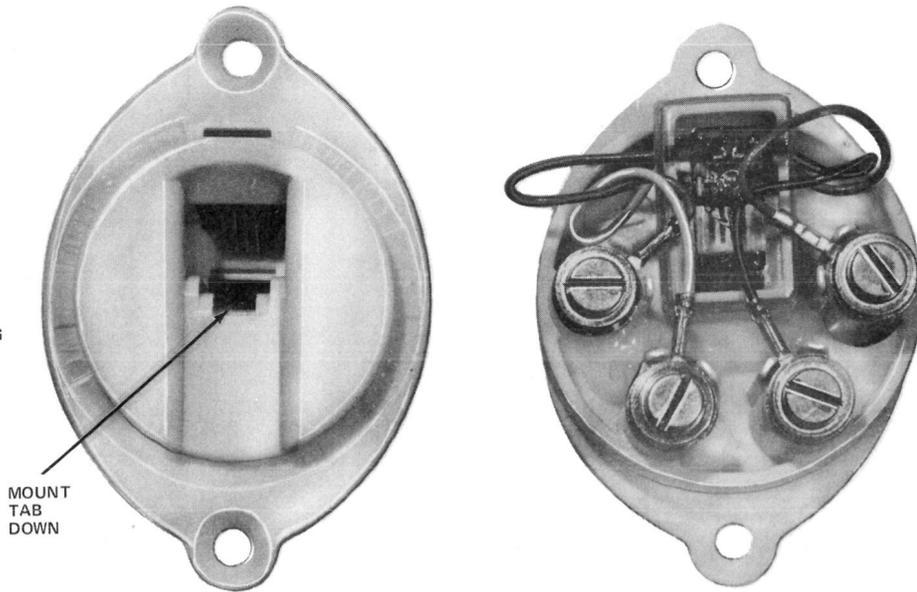

Fig. 4—625F Connecting Block (Without Mounting Hardware)
- Block, Connecting, 625F (Fig. 4)
2.06 The **625F** connecting block (Fig. 4) is intended for use in new installations requiring a flush-type connecting block or for modular replacement of 548A jacks or 47F connecting blocks. It does not include faceplate or mounting bracket.